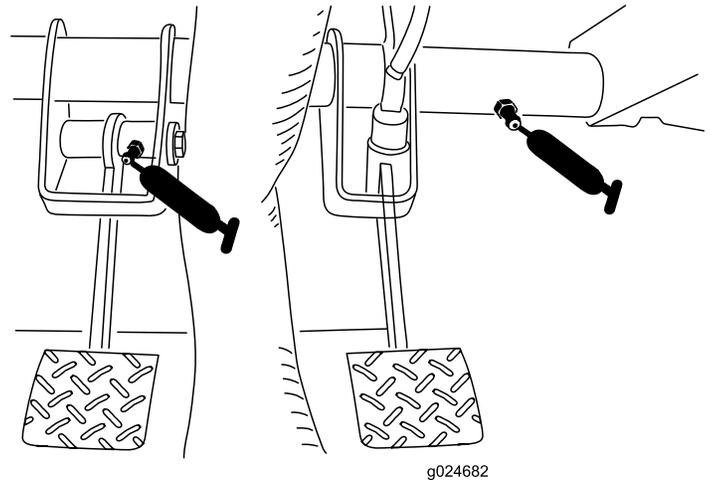

Figure 30
- **Clutch (1)**; refer to Figure 30
- **Brake (1)**; refer to Figure 30